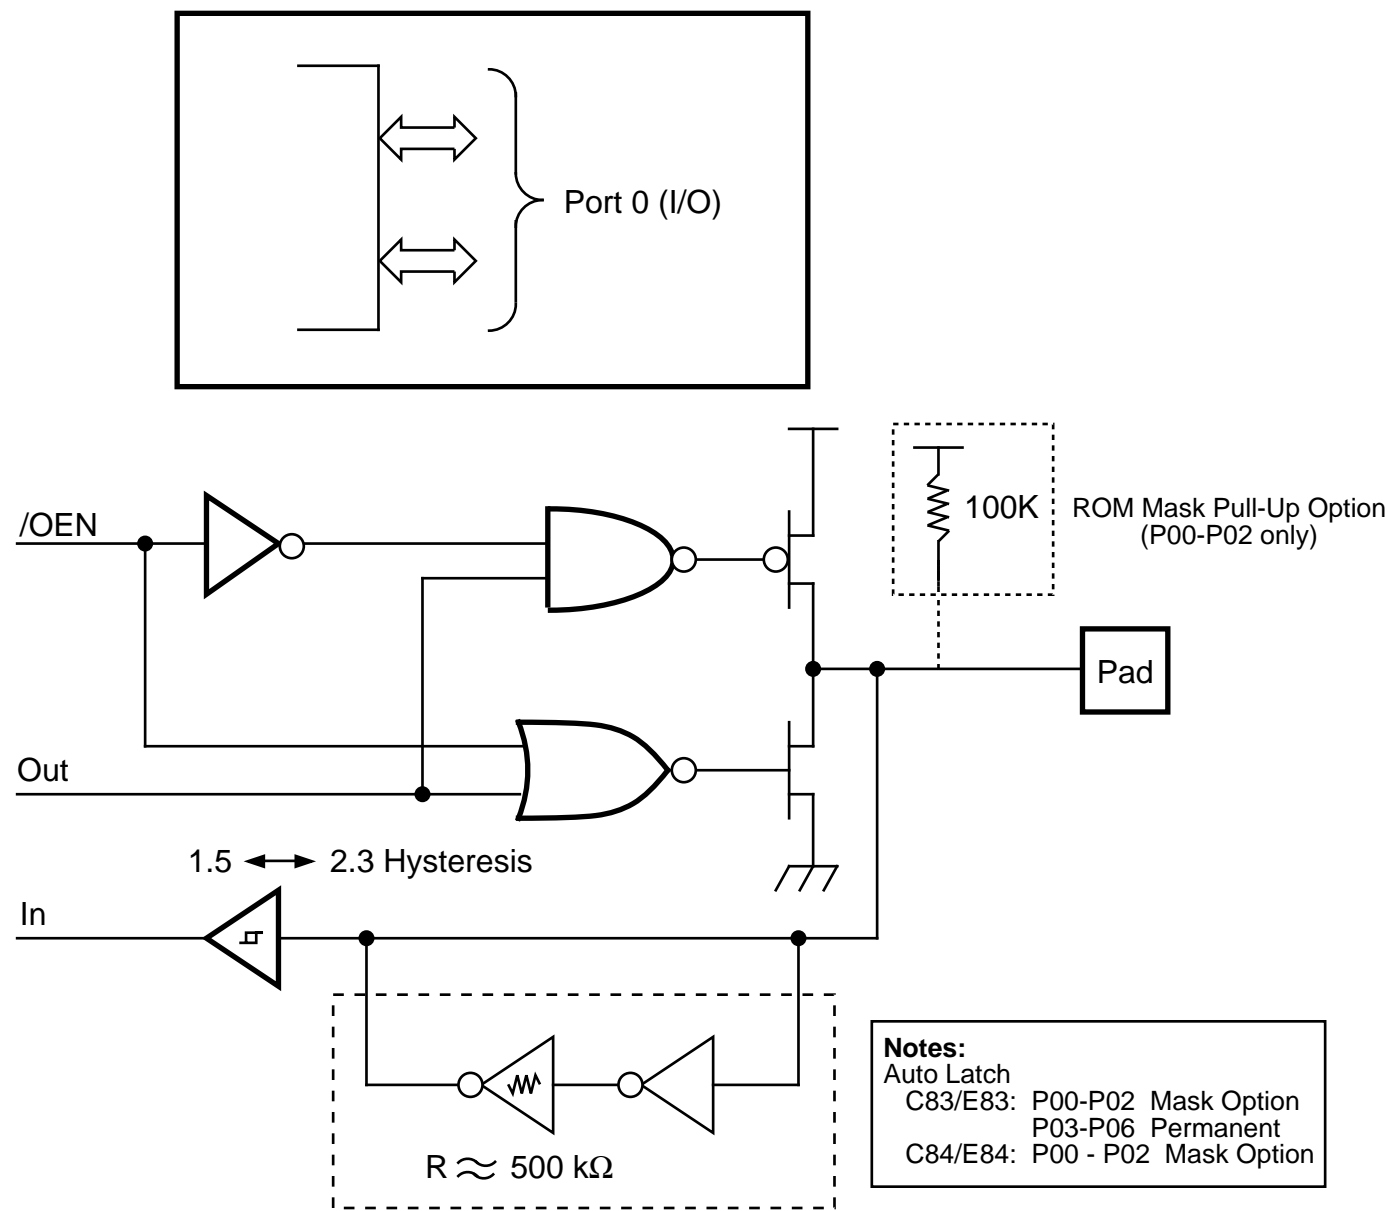

Figure 10. Port 0 Configuration
**Port 0 P00-P06.** (*P03-P06 is not available on the Z86C84*). Port 0 is a 7-bit, bidirectional, CMOS-compatible I/O port. These seven I/O lines can be nibble programmable as P00-P03 input/output and P04-P06 input/output, separately (Figure 10). All input buffers are Schmitt-triggered and output drivers are push-pull. There is a ROM mask option to enable 100K ( $\pm 40\%$ ) pull-up resistors to Port 0, P00 to P02.